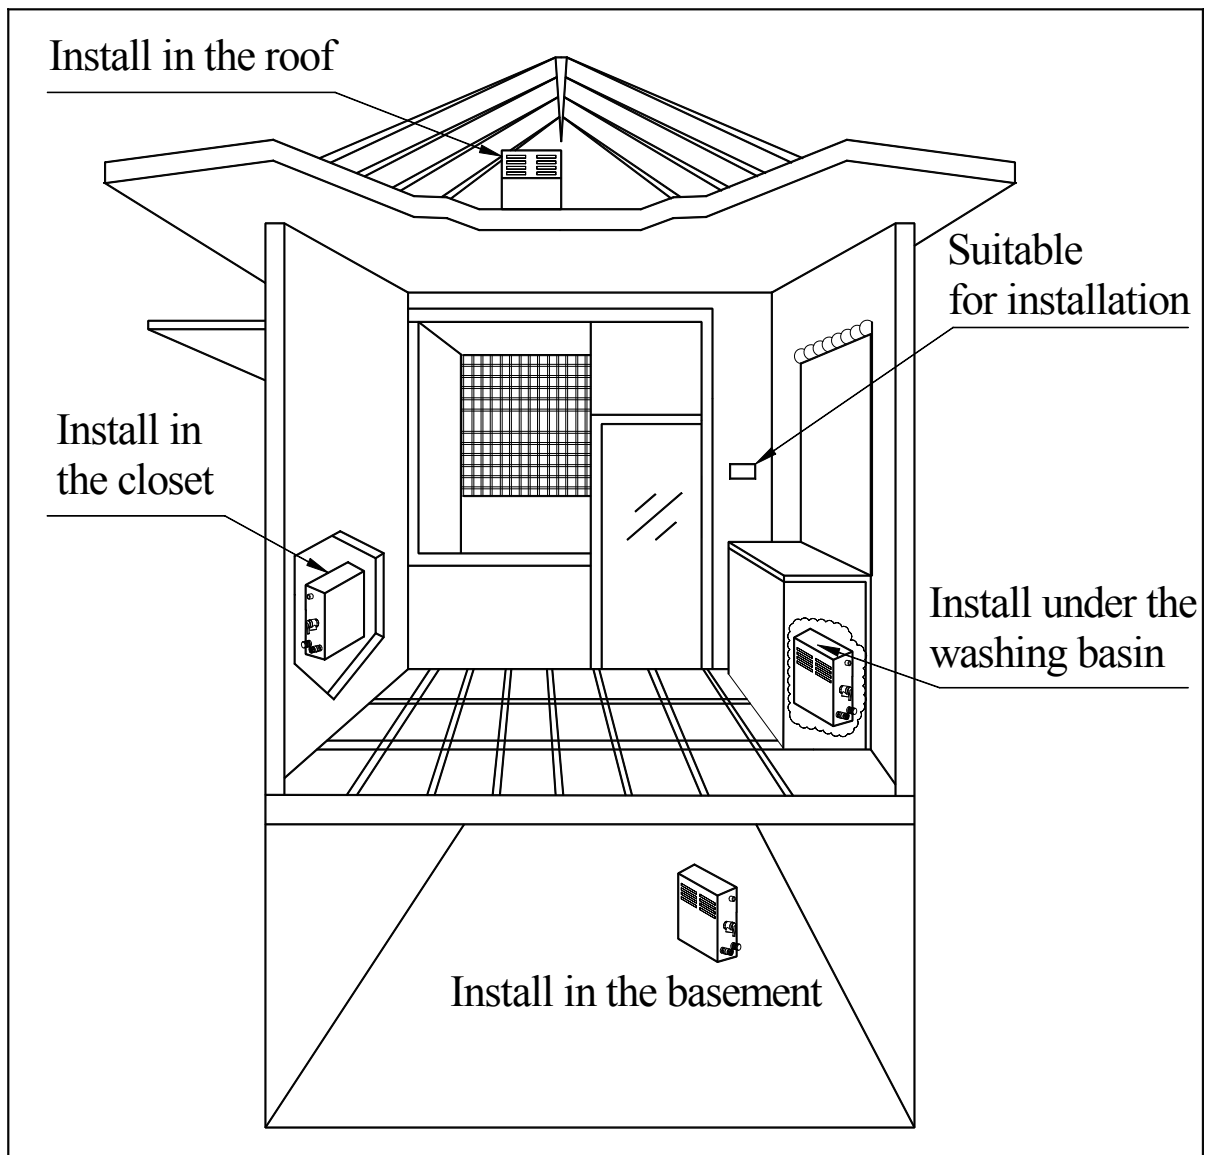

Figure 3 Steam generator installation places
- The generator should be installed in a dry and well-ventilated place. It can be installed either on the wall or on the ground, but must be well fixed. Install the generator as close to steam room as possible, such as in the closet, under the washing basin or in the basement. (Refer to figure 3).